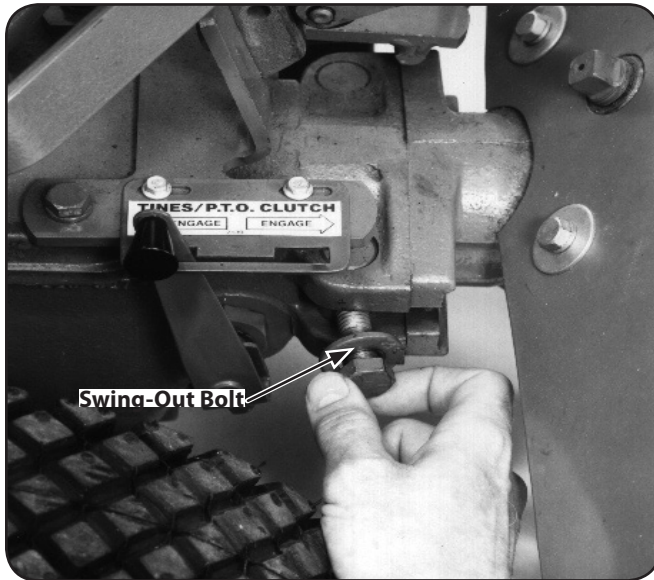

Figure 5-21
8. Then move the swing-out bolts out. See Figure 5-21.